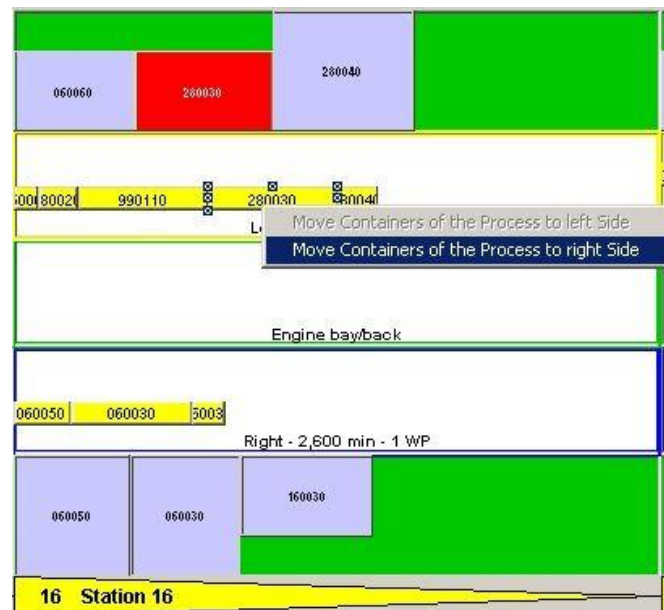

Figure 269: Open Process Context Menu
- 2) Then click one of the two possible entries. *Please refer to the Figure 269.*